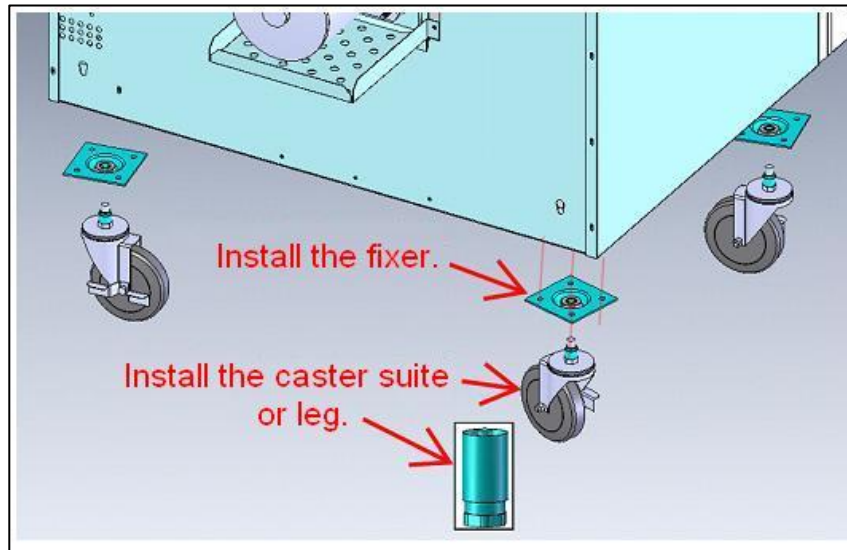

Fig.3
- During stacking, replace the long legs with 6" legs or casters as indicated in Fig.3.